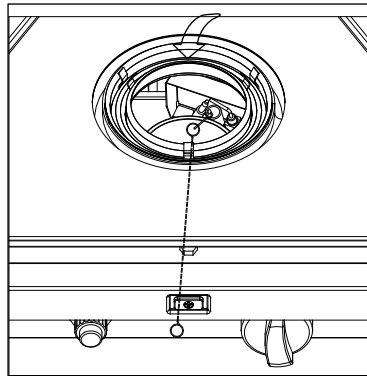

Figure 4
- As you are depressing the control knob, place long stem lighter through the glass tube to light the pilot (Figure 4).